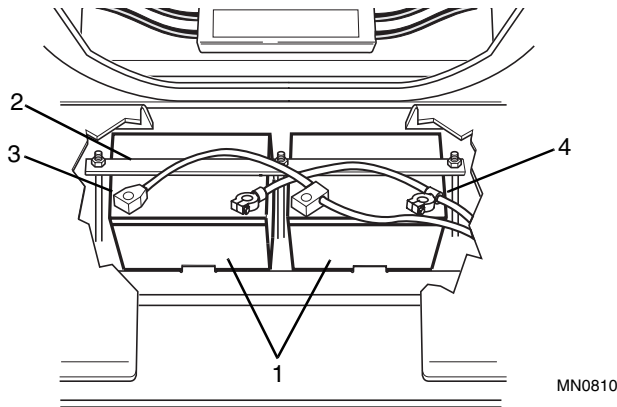

Figure 8-32 Battery Installation
1. Carefully install the batteries (Fig. 8-32, 1) and secure with holddown (2). Make sure holddown strap is properly attached to keep batteries from bouncing. Vibration is very harmful to a battery.
2. Connect red positive cable (Fig. 8-32, 3) to the batteries, and position both protective covers over cable ends.
3. Connect black negative cable (Fig. 8-32, 4) to the batteries.
1. Disconnect the black negative battery cable (Fig. 8-32, 4) from both batteries (1).
2. Disconnect the red positive battery cable (Fig. 8-32, 3) from both batteries (1).